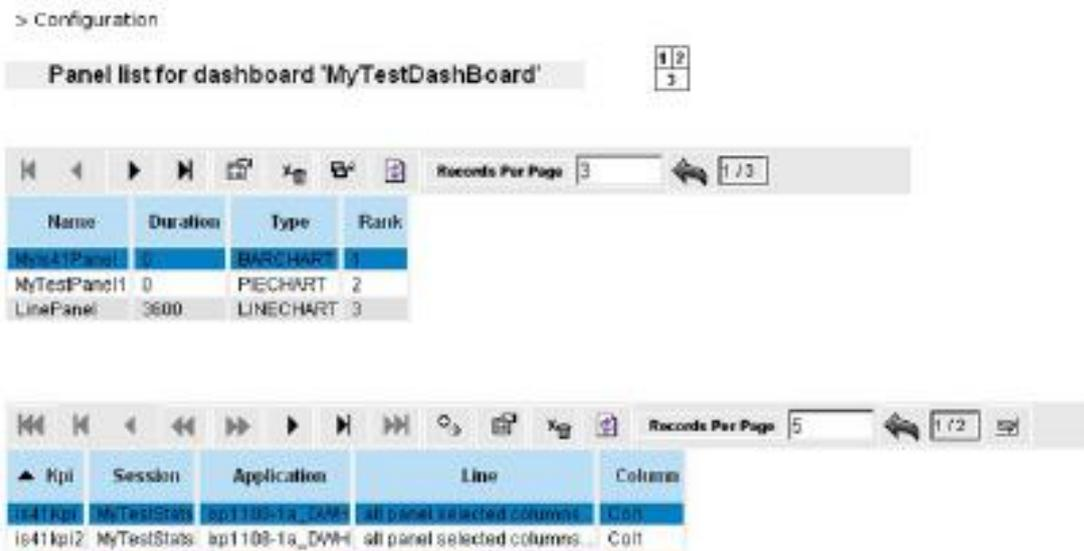

Figure 11: Child Records List Screen
- Click **Show child** to open the child list screen shown in Figure 11: Child Records List Screen.